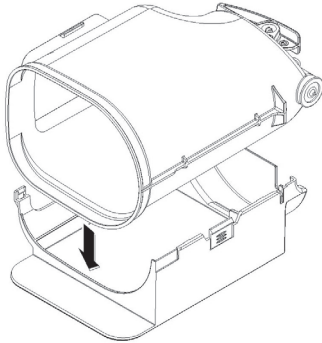

figure 15
- 1 Place the right-hand part of the recover on a surface. Place the container inside it. (see figure 15)